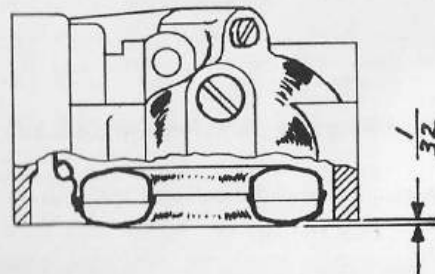

Figure 23—Float Setting
- (1) Replace main-nozzle-channel plug-screw.
- (2) Replace idle mixture adjustment screw and spring.
- (3) Replace idle by-pass tube and gasket.
- (4) Replace inlet needle seat and gasket. Replace inlet needle and large float-bowl plug-screw.
- (5) Position float and replace float-lever pinion-screw.
- (6) Check float level: Invert carburetor bowl (lower half) and measure float setting. The float setting is measured from the machined surface of the carburetor float bowl (without gasket) to the bottom side of the float at the lowest point. This measurement should be $\frac{1}{32}$ " (see Figure 23.) To level the float remove float and slightly bend (using long-nose pliers) the vertical flat lever to obtain the proper measurement.